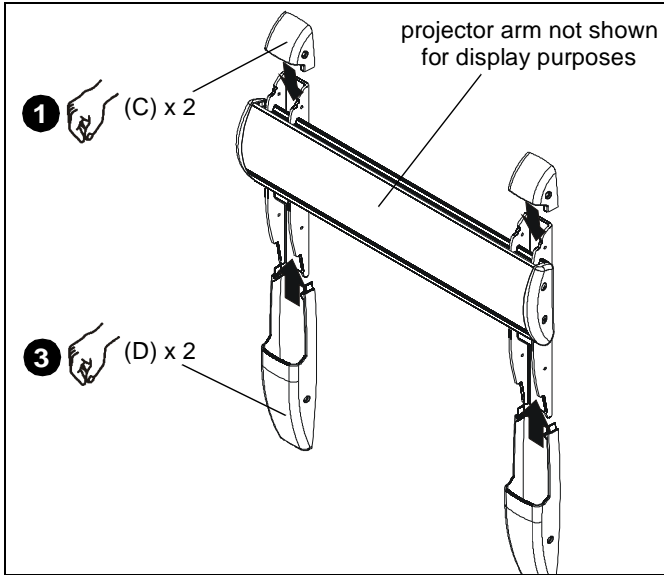

Figure 30
1. Place wall bracket top covers (C) over top of each wall bracket arm. (See Figure 30)
3. Place wall bracket bottom covers (D) over bottom of each wall bracket arm. (See Figure 30)